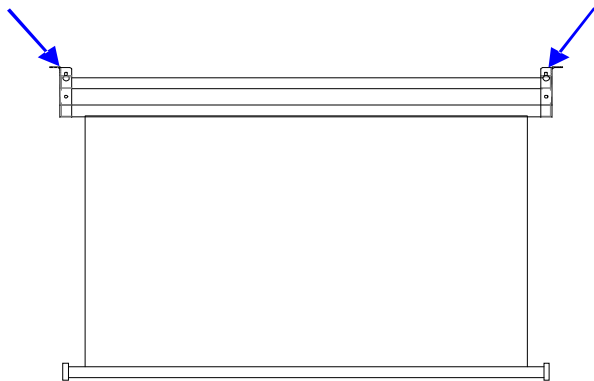

Fig. 2
7. Figure 2 will show you an optional installation using chains (not included).